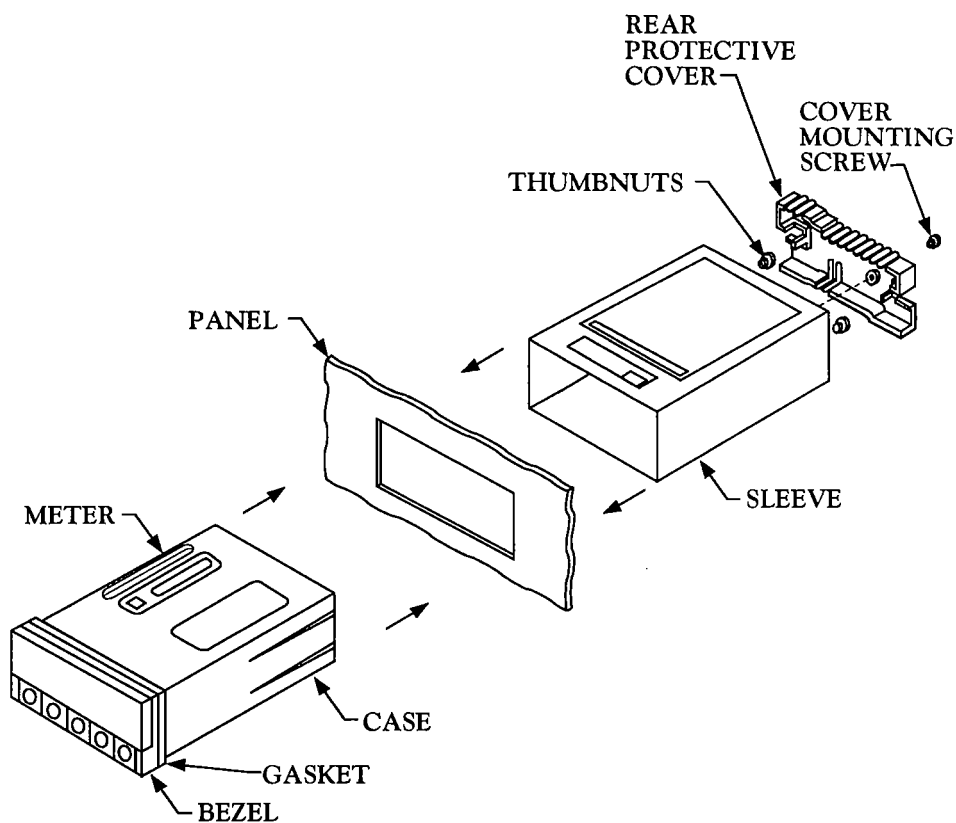

Figure 5-14. Panel Mounting
3. Insert the case and meter into the hole, so that the gasket seals between the bezel and the front of the panel. Refer to Figure 5-14.